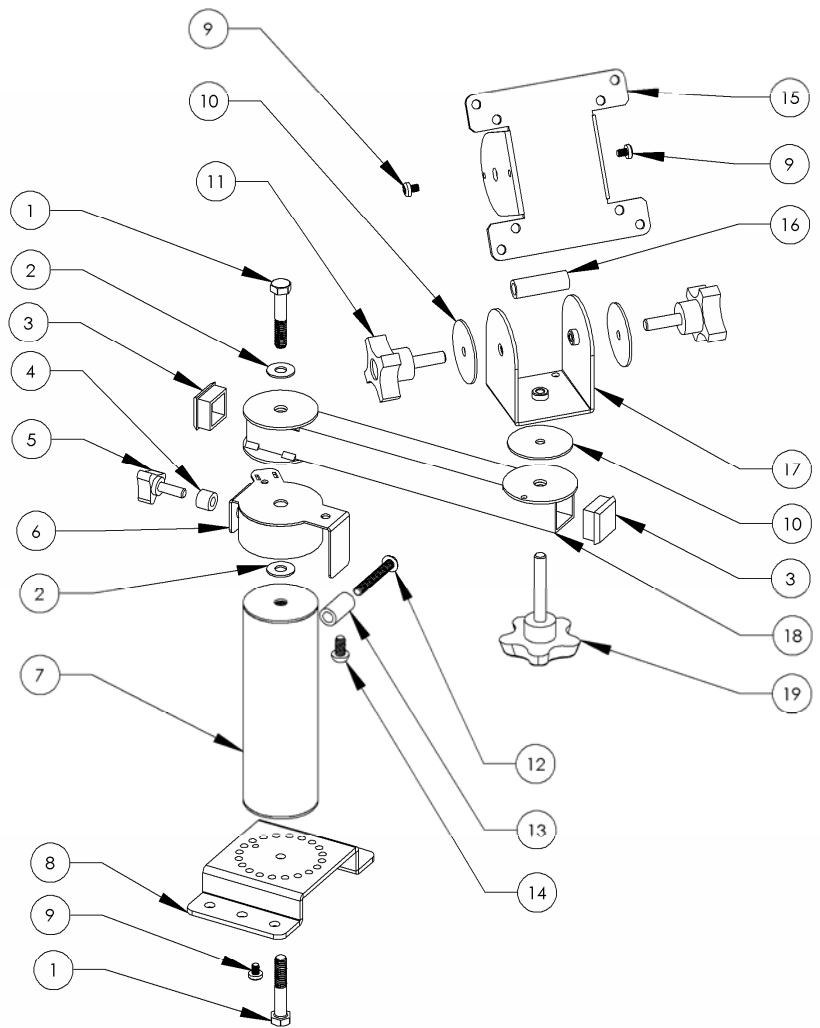

Figure 5 - Pedestal Mount w/ 6" riser, 8" arm and a screen pan and tilt head (PN 80080)
1. Lay the silicone anti-slip washer on top of the end of the arm (See Figure 5).